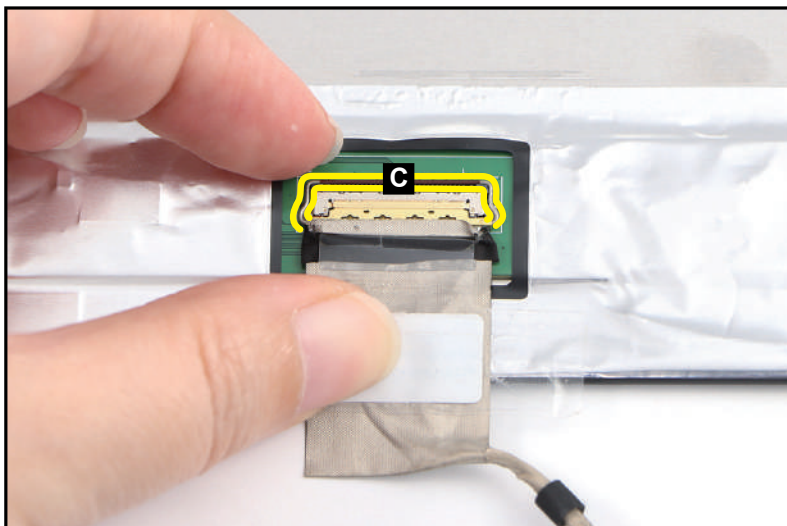

Figure 3-97. Replacing the LCD Panel
3. Push the latch (C) down to secure the LCD cable in place (Figure 3-97).